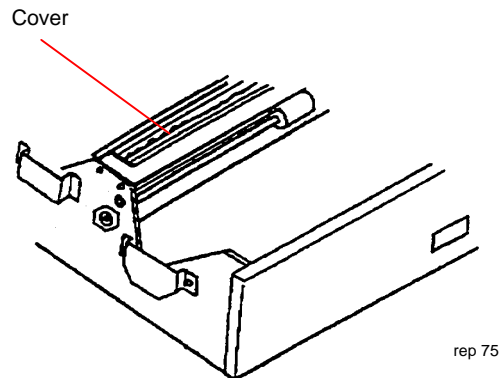

Figure 1. Removing the Cover
2. (Figure 1): Remove the four screws from each side and remove the Cover.